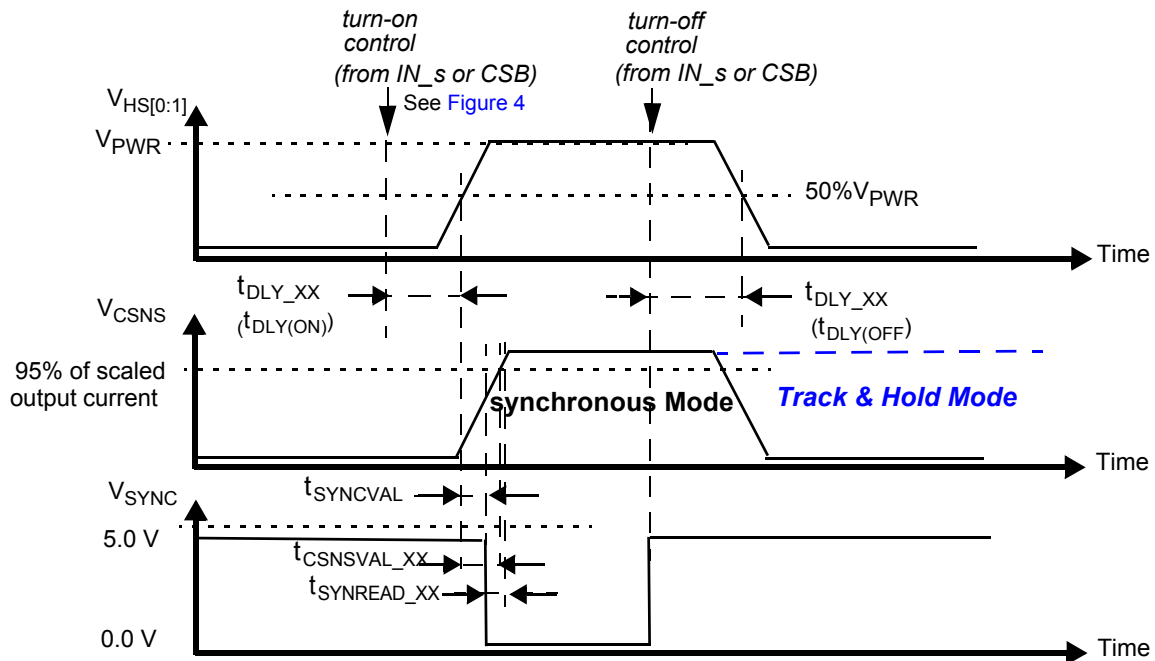

Figure 9. Synchronous and track-and-hold current sensing modes: associated delay & settling times
29. Time required to switch off the channel after detection of overtemperature (OT), overcurrent (OC), SC or UV error (time measured between start of the negative edge on the FSB pin and the falling edge on the output voltage until $V(\text{HS}[0:1]) = 50\%$ of V_{PWR}).
30. Settling time (= $t_{\text{CSNSVAL_XX}}$), SYNC output signal delay (= $t_{\text{SYNCVAL_XX}}$) and Read-out delay (= $t_{\text{SYNREAD_XX}}$) are defined for a stepped load current ($100\text{ mA} < I(\text{LOAD}) < \text{IOCLX A FOR CSNS_RATIO_S} = 1$, AND $300\text{ mA} < I(\text{LOAD}) < \text{IOCLX A}_0$ FOR $\text{CSNS_RATIO_S} = 0$). (see Figure 9 and Output current monitoring \(CSNS\))
The CS pin allows independent current monitoring of channel 0 or channel 1 up to the steady-state overcurrent threshold. It can also be used to sense the device temperature. The different functions are selected by setting bits CSNS1_en and CSNS0_en to the appropriate value (Table 23). When the CSNS pin is sensed during switch-off in the (optional) track & hold mode (see Figure 9), it outputs the scaled value of the load current as it was just before turn-Off. When several devices share the same pull-down resistor, the CSNS pins of devices the current of which is not monitored must be tri-stated. This is accomplished by setting CSNS0_en = 0 and CSNS1_en = 0 in the GCR register (Table 10). Settling time ($t_{CSNSVAL_XX}$) is defined as the time between the instant at the middle of the output voltage's rising edge ($HS[0:1] = 50\%$ of V_{PWR}), and the instant at which the voltage on the CSNS-pin has settled to $\pm 5.0\%$ of its final value. Anytime an overcurrent window is active, the CSNS pin is disabled (see Overcurrent detection on resistive and inductive loads). The current and temperature sensing functions are unavailable in Fail-safe mode and in Normal mode when operating without the V_{DD} supply voltage. In order to generate a voltage output, a pull-down resistor is required ($R(CSNS) = 1.0$ k Ω typ. and $470 < R(CSNS) < 10$ k). When the current sense resistor connected to the CSNS pin is disconnected, the CSNS voltage is clamped to $V_{CL(CSNS)}$. The CSNS pin can source currents up to about 5.6 mA.
To synchronize current sensing with an external process, the SYNC signal can be connected to a digital input of an external MCU. SYNC is asserted logic low when the current sense signal is accurate and ready to be read. The current sense signal on the CSNS pin has the specified accuracy $t_{SYNCREAD_XX}$ seconds after the falling edge on the SYNC pin (Figure 9) and remains valid until a rising edge is generated. The rising edge that is generated by the SYNC pin at the turn-OFF instant (internal or external) may also be used to implement synchronization with the external MCU. Parameter $t_{SYNCVAL_XX}$ is defined as the time between the instant at the middle of the output-voltage rising edge ($HS[0:1] = 50\%$ of V_{PWR}), and the instant at which the voltage on the SYNC-pin drops below 0.4 V (V_{SOL}). The SYNC pins of different devices can be connected together to save μ -controller input channels. However, in this configuration, the CSNS function of only one device should be active at a time. Otherwise, the MCU does not determine the origin of the SYNC signal. The SYNC pin is open drain and requires an external pull-up resistor to VDD.